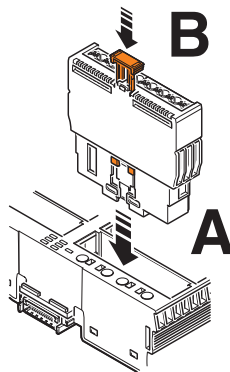

Figure 11-12 Inserting the Smart Element
- Insert the required Axioline Smart Elements into the appropriate slots of the Axioline F backplane (Figure 11-12, A).
- Push down the release mechanism (Figure 11-12, B). This locks the Smart Element in the backplane.